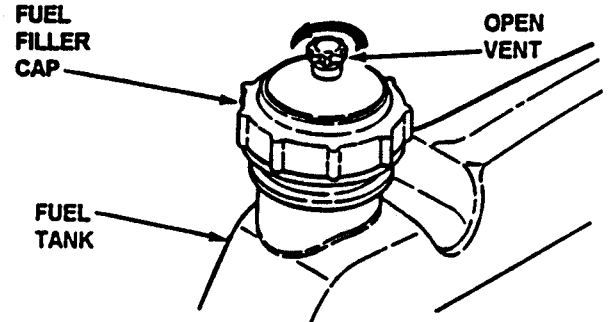

FIGURE 2.6
4. Open vent on fuel filler cap by turning counterclockwise. NOTE: Failure to open vent on the fuel filler cap can cause engine to stall. See Figure 2.6.
4. Open vent on fuel filler cap by turning counterclockwise. **NOTE:** Failure to open vent on the fuel filler cap can cause engine to stall. See Figure 2.6.